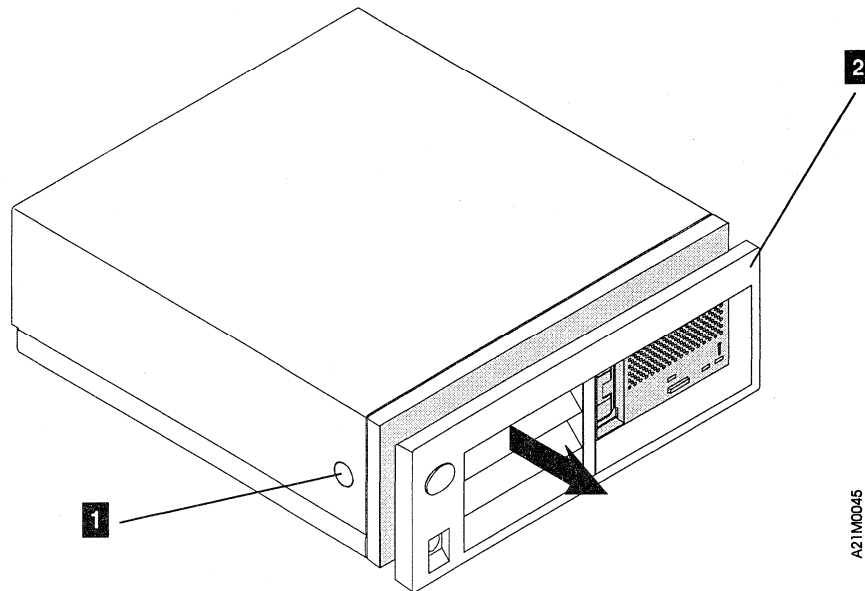

Figure 25. Removing the Front Cover from Model C00
In those infrequent cases when turning the power off and then on again does not work, perform the following steps in the order indicated (see Figure 25):
**Note:** There is a corresponding tab on the opposite side of the chassis to the one shown as **1** in Figure 25.